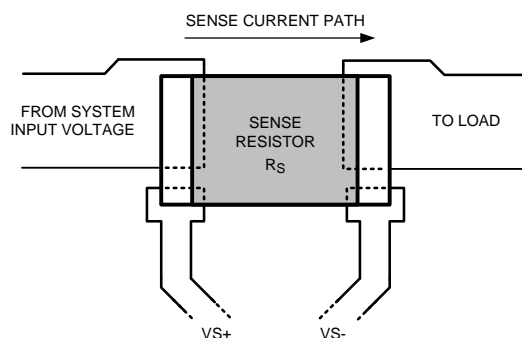

Figure 18. Sense Resistor Connections
Connections from  $R_S$  to the LM25056 should be made using Kelvin techniques. In the suggested layout of Figure 18, the small pads at the lower corners of the sense resistor connect only to the sense resistor terminals and not to the traces carrying the high current. With this technique, only the voltage across the sense resistor is applied to  $VS+$  and  $VS-$ , eliminating the voltage drop across the high current solder connections.
- The sense resistor ( $R_S$ ) should be placed close to the LM25056. In particular, the traces to the  $VS+$ ,  $VS-$ , and VIN pins should be made as low resistance as practical to ensure maximum current and power measurement accuracy. Connect  $R_S$  using the Kelvin techniques shown in Figure 18.